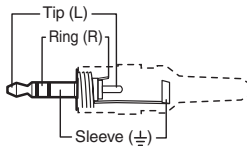

Figure 2-9 — 3.5 mm stereo audio plug
- ④ **Audio input (RGB CV, RGB and SW RGB models) —** Plug a 3.5 mm stereo audio plug into this jack for unbalanced audio input. Wire the plug as shown in figure 2-9.
NOTE Figure 2-9 shows a typical audio connector, which consists of tip, ring, and sleeve.